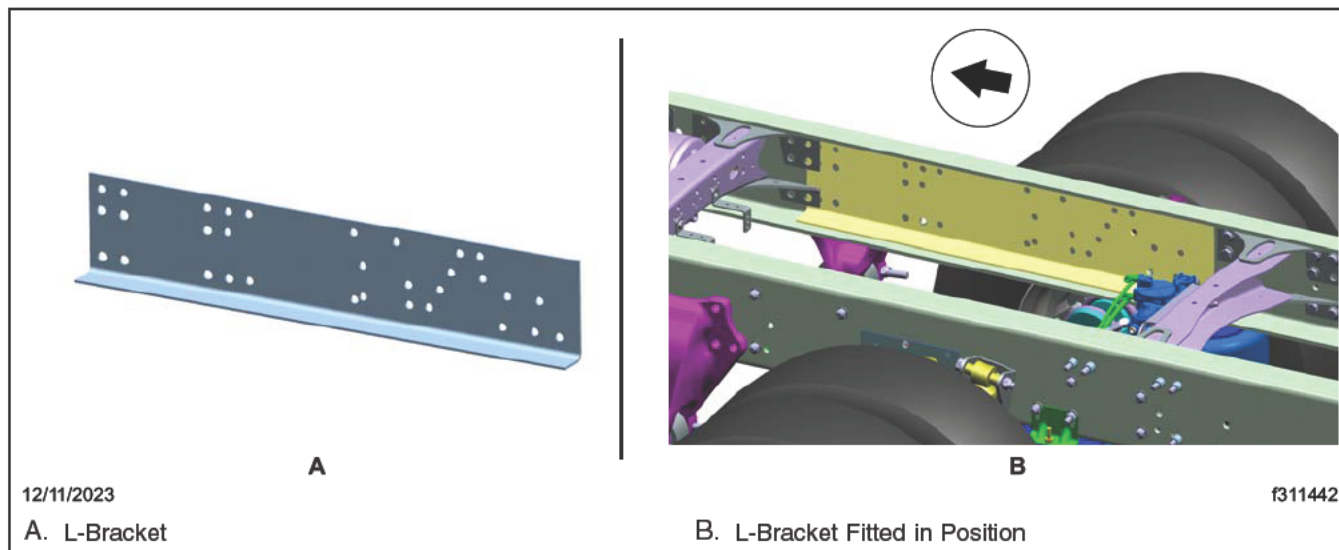

Fig. 23, Installation of the L-Bracket
13. Slide the L-bracket inside the frame rail lining and align with the pre-drilled holes, as shown in Fig. 23.